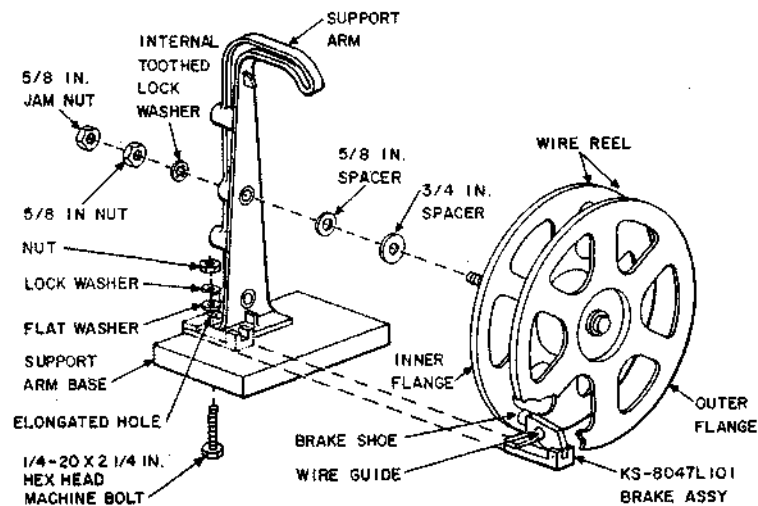
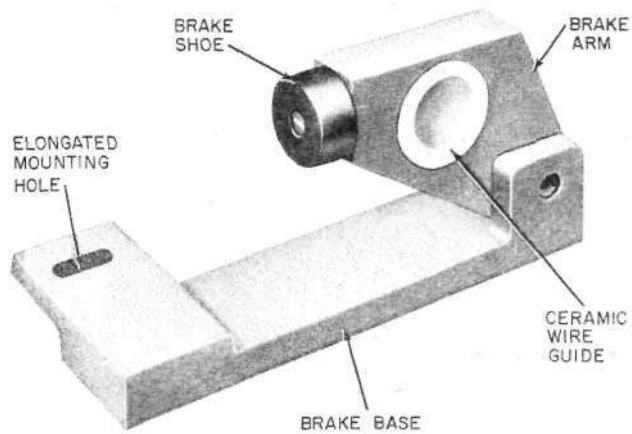

Fig. 3—Installation of KS-8047 L101 Automatic Brake Kit
Fig. 4—KS-8047 L101 Brake
- (a) *Removal of the Drag Brake (Fig. 3)*
- (1) Using the KS-13816 wrench, remove the 5/8-inch nut and internal toothed lockwasher and then separate the wire reel from the support arm. Discard the lockwasher.
- (2) Manually remove the drag brake shoe and spring at the base of the support arm.
- (b) *Preparation of Wire Reel for Brake Kit (Fig. 3)*
- (1) Reinstall the reel on the support arm, and rotate reel. There must be clearance between the inner flange of the reel and the support arm with NO lateral movement or play along the reel shaft. If either condition exists, add spacers to the reel shaft as follows.
- (1) Remove the wood screw that holds the left side of the support arm to the base; discard this screw.
- (2) Drill a 1/4-inch diameter hole through the wood base where the wood screw was removed.
- (3) Place the L101 brake (Fig. 4) over the support arm base, as shown in phantom in Fig. 3. Align the slotted hole in the brake assembly over the hole in the support arm, and insert the 1/4- by 2-1/4 inch machine bolt from the bottom up with the bolt head under the wood base and the nut with flat washer and lockwasher on top of the brake.
- (4) For frame-mounted wire reels without the wood base, use the 1/4-20 by 1-inch hex cap screw, plain washer, lockwasher, and nut provided to fasten the brake to the support arm base.
- (5) Because the inside reel flange may be warped, rotate the reel to the spot where the brake shoe is in best contact with the reel flange. With the brake shoe flush against the inner flange, secure the brake assembly using the flat washer, lockwasher, and nut provided.
- (c) **Installation of the KS-8047 L101 Brake (Fig. 3)**